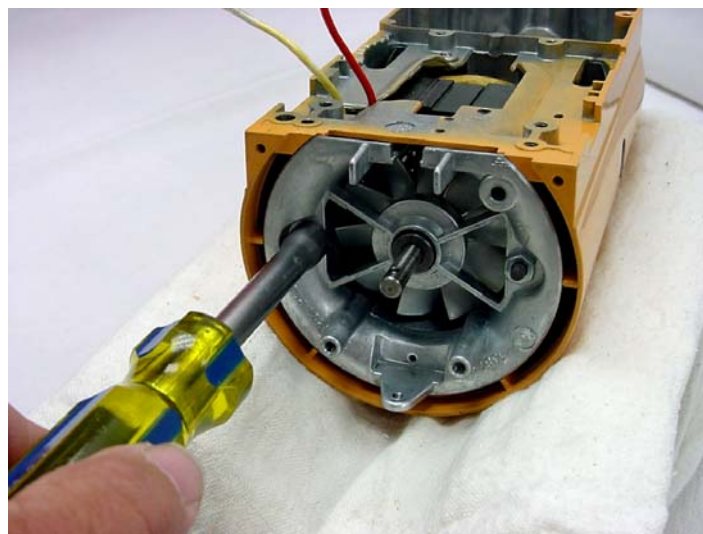

Fig. 26 Two 10-24 nuts are removed from the bearing bracket.
E. Unscrew and remove the two #10-24 nuts (Fig. 26).